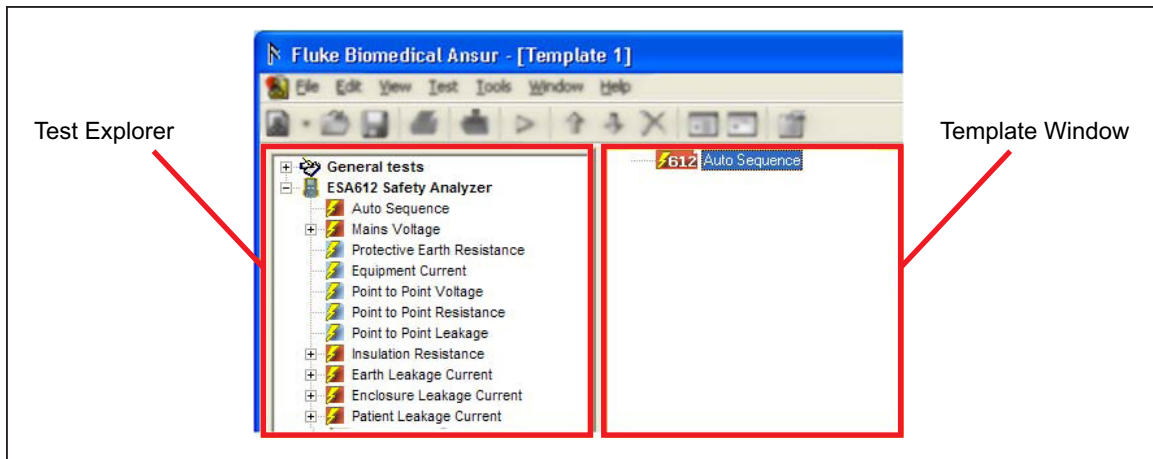

Figure 3-20. Auto Sequence added to Template
3. Click and hold on the Auto Sequence entry in the test explorer window and drag and release it in the template window. A copy of the Auto Sequence should appear in the template window as shown in Figure 3-20. The Auto Sequence entry is a holder of tests that are executed when called.